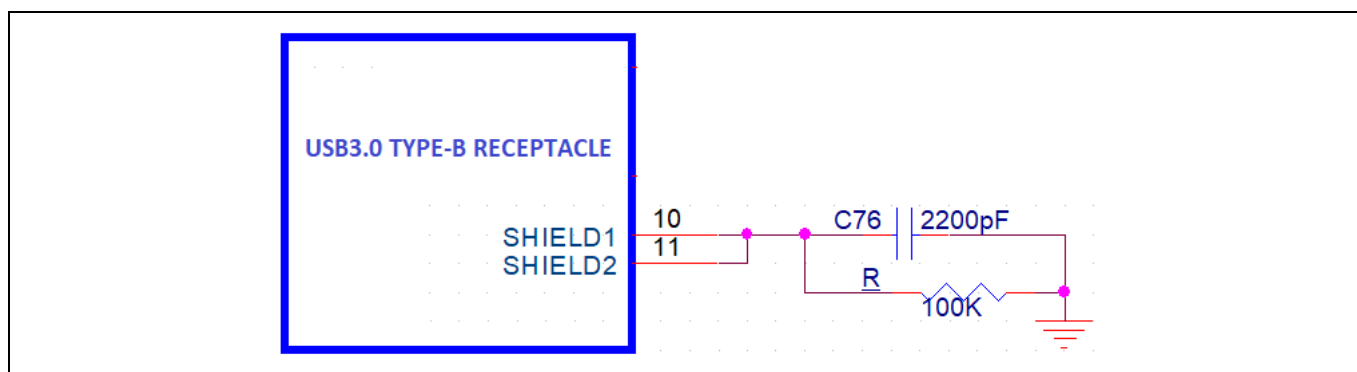

Figure 35 Standard-B receptacle layout
- Shield pins on the USB 3.0 receptacle should be terminated to ground with a parallel LC (or) RC circuit to avoid EMI/EMC issues. We recommend to use an RC circuit as shown in the Figure 35.